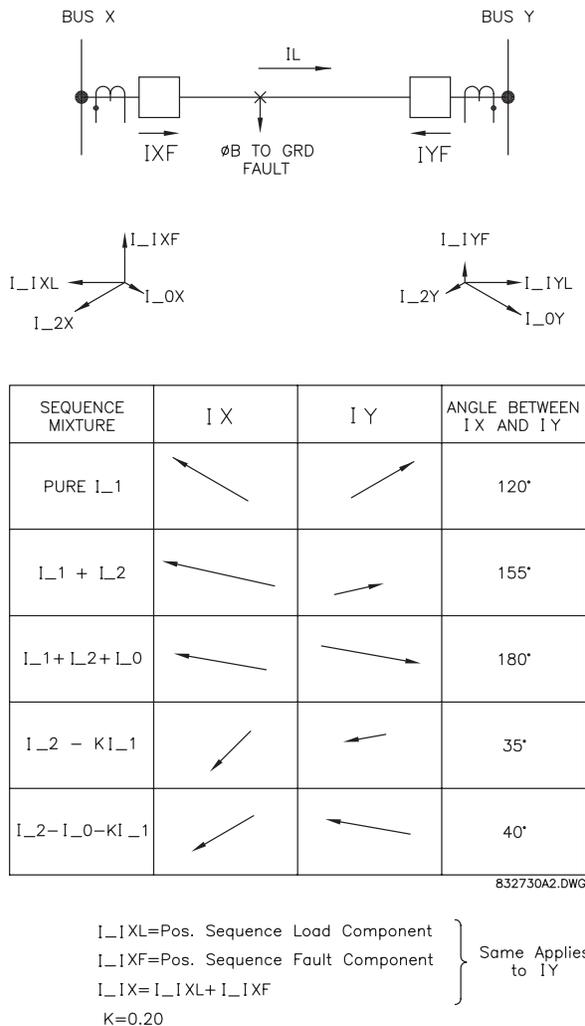
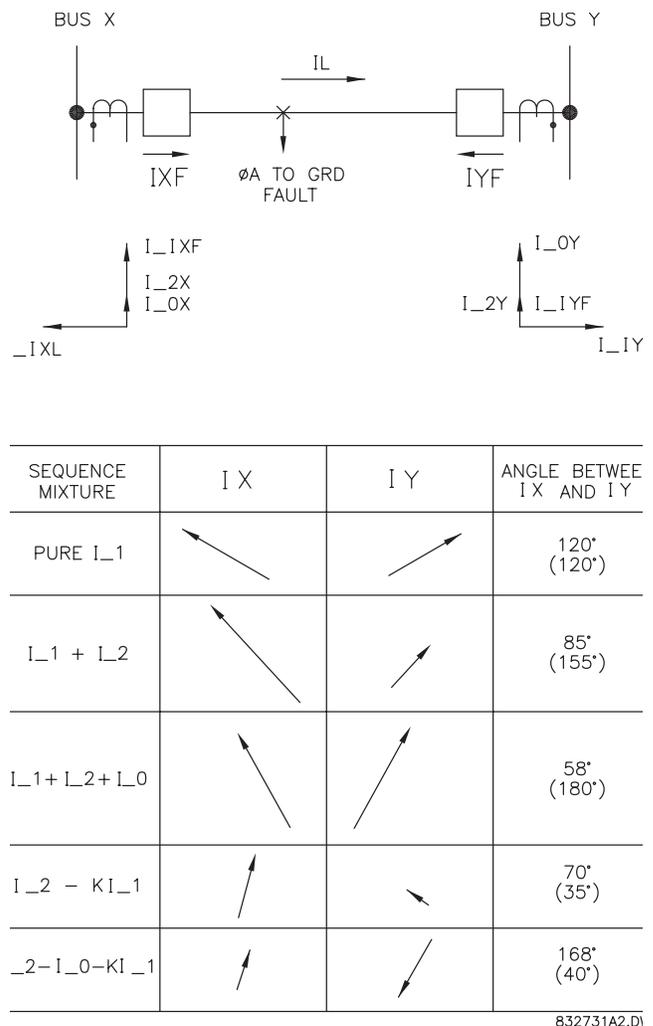

Figure 8-7: VECTOR RELATIONSHIPS IN A 2-TERMINAL FAULTED LINE (B-TO-G)
Figure 8-8: VECTOR RELATIONSHIPS IN A 2-TERMINAL FAULTED LINE (A-TO-G)
Figure 8-7 illustrates a two-terminal line with an internal phase B-to-ground fault. The phasor diagrams indicate the phase positions of the sequence currents at both ends of the line assuming current flow into the line and also assuming a phase A reference as in equations (1), (2), and (3), previously shown.
At this point it should be recognized that the positive sequence component of current is made up of two parts, the load component (I_{1L}) and the fault component (I_{1F}). By an analysis utilizing superposition, the load component (I_{1L}) may be established as the current flowing just prior to the fault. The three fault components of current (I_{1F} , I_{2F} , and I_{0F}) are then calculated using the voltage that existed at the point of fault just prior to the fault. Since the load component of current is equal to the vector difference between Bus X and Bus Y voltages divided by the impedance of the line, and since the pre-fault voltage (at the point of fault) has a phase position somewhere between that of X and Y voltages, the positive sequence component of fault current will be displaced from the load component by about $90^\circ \pm$ about 30° . The phasor diagrams at the top of Figure 8-7 assume that load current flow is from bus X to bus Y.
The first row of the table in Figure 8-7 indicates that for the conditions assumed, the net positive sequence current entering both ends of the line are about 120° displaced from each other. Heavier fault current and lighter load current would reduce this angle toward zero while the converse would increase the angle toward 180° .
The second and third rows of the table of Figure 8-7 indicate the relative phase positions of the positive plus negative, and positive plus negative plus zero sequence components respectively. These appear to be more unsatisfactory. Rows 4 and 5 combine the components differently and both appear to yield much better results.
It is obvious from Figure 8-6, that a similar fault on a different phase would yield different results. This is illustrated in Figure 8-8 where a phase-A-to-ground fault at the same location is analyzed. As noted earlier, the integrator timers in phase comparison schemes are generally set for about 3 milliseconds. This will permit tripping on internal faults with as much as 115° between the phase angles of the currents entering both ends of the lines. On this basis, only excitation by $I_2 - (0.20) \times I_1$ would prove satisfactory for the two cases studied in Figures 8-7 and 8-8.
When frequency-shift equipment is used over power line carrier, the frequencies of each transmitter on the line must be different from all the others on the same line. For example, if the communication equipment in Figure 8-8 is of the frequency-shift type, the transmitter at the left end must operate at the same frequencies as the receiver at the right end. Also, the right end transmitter and left end receiver must operate at the same frequencies while the frequencies of the two transmitters must be different. This is necessary because with frequency-shift equipment the transmitters associated with a given line protection scheme are not all generally sending the MARK or the SPACE frequencies at the same time. Thus, if a receiver were able to receive more than one transmitter, it could be simultaneously receiving a MARK signal from one and a SPACE signal from another.